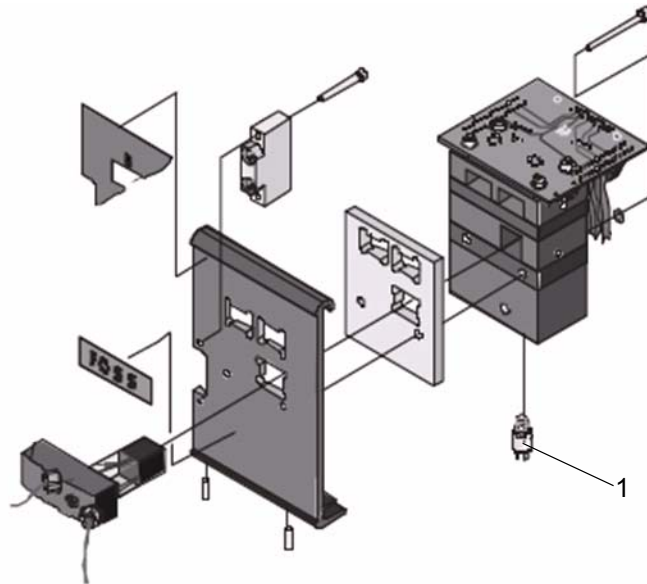

Fig. 6:77 Photometer and lamp
5. Locate the lamp (1), see Fig. 6:77, on the underside of the photometer block. Grasp firmly and pull out. You may have to use the pair of pliers to do this.